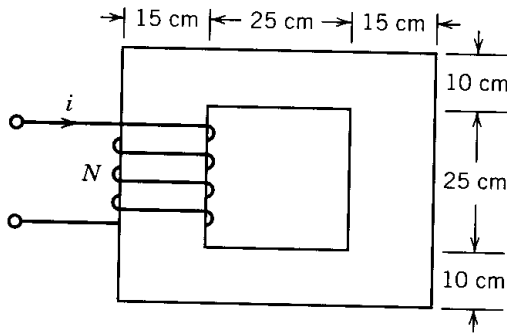

FIGURE P1.2
- 1.2 In the magnetic system of Fig. P1.2 two sides are thicker than the other two sides. The depth of the core is 10 cm, the relative permeability of the core $\mu_r = 2000$, the number of turns $N = 300$, and the current flowing through the coil is $i = 1$ A.